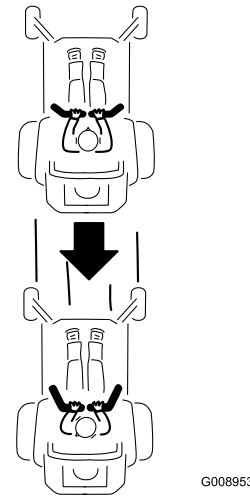

Figure 15
2. To go backward, look behind you and down, as you slowly pull the motion-control levers rearward (Figure 15).
To go straight, apply equal pressure to both motion-control levers (Figure 15).